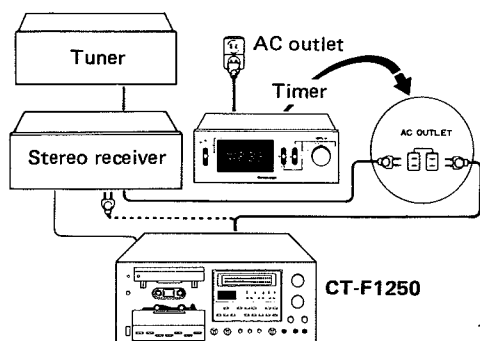

Fig. 7
1. As shown in Fig. 7, connect the CT-F1250's power cord to the timer. At the same time connect the power cord of the stereo component (receiver, or tuner and amplifier, etc.) which is connected to the CT-F1250 so that the power ON/OFF functions of that component are controlled by the timer.
1. As shown in Fig. 7, connect the CT-F1250.